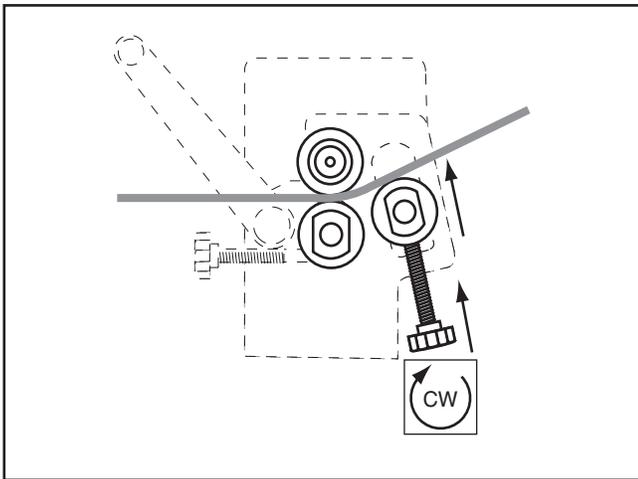

Figure 23. Setting the radius.
- Turn the radius adjust knobs to lift the rear roller until the desired radius bend is reached (**Figure 23**). Make sure to turn the knobs equal amounts so the rear roller is always parallel with the other rollers. Failure to do so will create a larger radius on one end than the other, resulting in a cone shape.